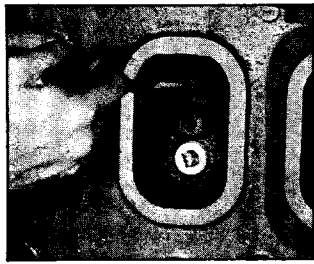

Fig. 4—Inspecting for Broken Piston Rings Through Cylinder Liner Air Ports.
1. Piston rings may be stuck or broken. To determine the condition of these rings, inspect them as shown in Fig. 4.